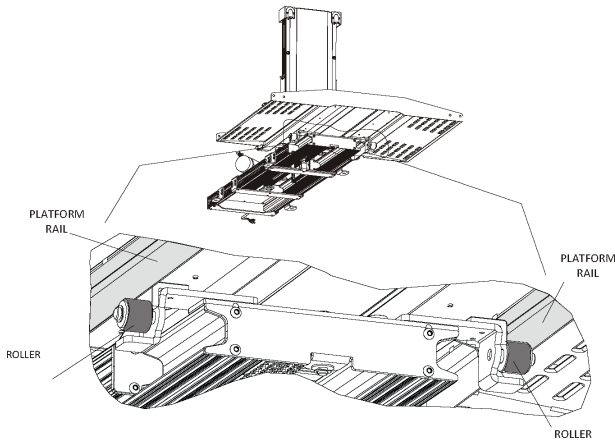

Figure 4-44
5. If the platform has been adjusted, be sure to keep the rollers in contact with the platform rails throughout travel with the platform both empty and loaded. *See Figure 4-44.*